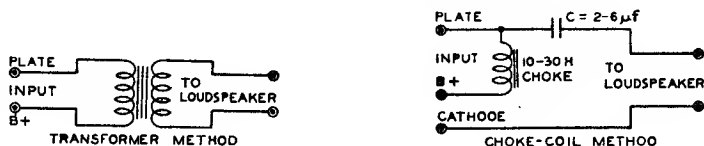

Fig. 63
Output-coupling devices are of two types, (1) choke-condenser and (2) transformer. The choke-condenser type consists of an iron-core choke with an inductance of not less than 10 henrys which is placed in series with the plate and B-supply. The choke offers a very low resistance to the d-c plate current component of the signal voltage but opposes the flow of the fluctuating component. A by-pass condenser of 2 to 6 μf supplies a path to the speaker winding for the signal voltage. The transformer type is constructed with two separate windings—a primary and a secondary wound on an iron core. This construction permits of designing each winding to meet the requirements of its position in the circuit. Typical arrangements of each type of coupling device are shown in Fig. 63. Examples of transformers for push-pull stages are shown in several of the circuits given in the CIRCUIT SECTION.